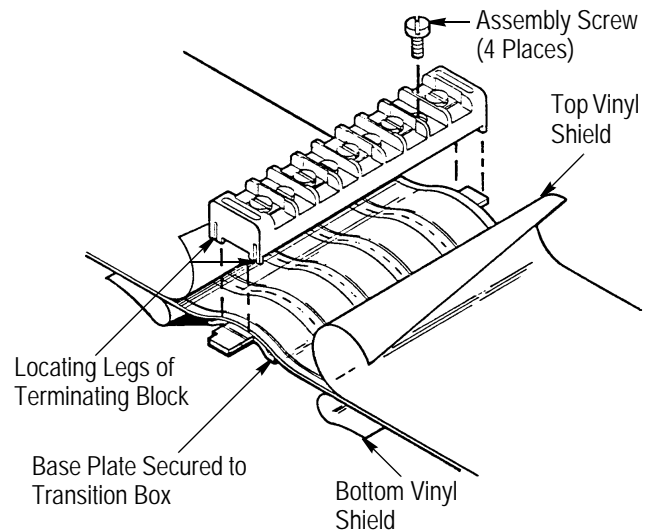

Figure 4
2. Refer to Figure 4, and follow Steps 1 through 3 of Paragraph 3.2,A.
4. Insert the 4 assembly screws into the holes in the terminal block. See Figure 4. Tap each screw head lightly so that the screw starts entry into the cable, then alternately tighten the screws to a torque of 2.26 Nm [20 in.-lb].